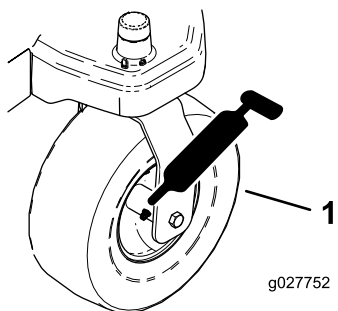
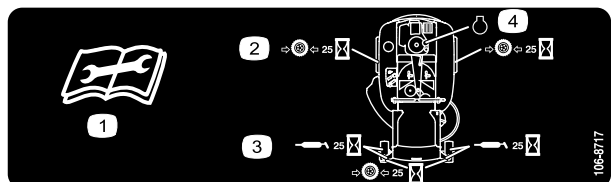

Figure 25
Figure 26
3. Clean the grease fittings (Figure 25 and Figure 26) with a rag.
4. Connect a grease gun to each fitting (Figure 25 and Figure 26).